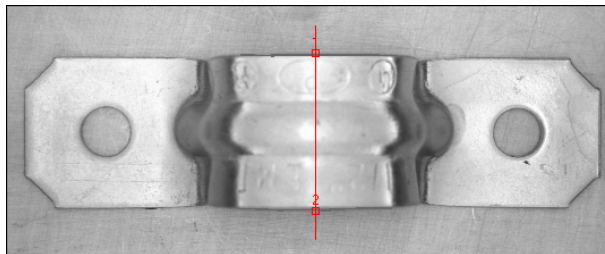

Figure 4-5. Finding the Edges for Bracket Distance
6. Click and drag to draw a vertical line across the middle of the bracket to find the edges that you will use to calculate Width Center, as shown in Figure 4-5. IMAQ Vision Builder labels the edges 1 and 2.